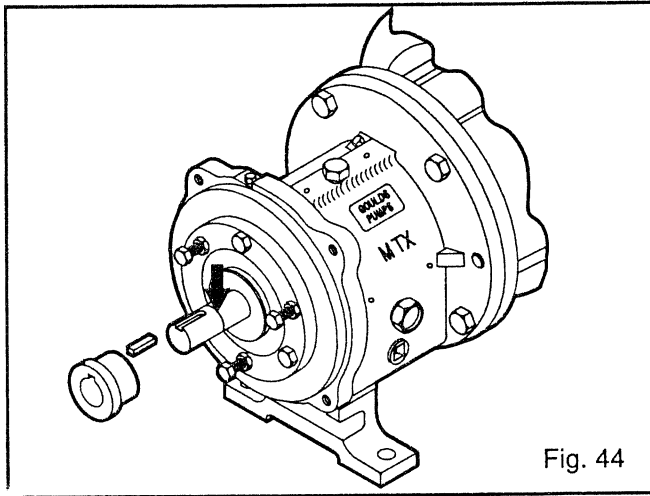

Fig. 44
15. Support frame adapter (108) securely to workbench.
16. Remove coupling hub (Fig. 44).